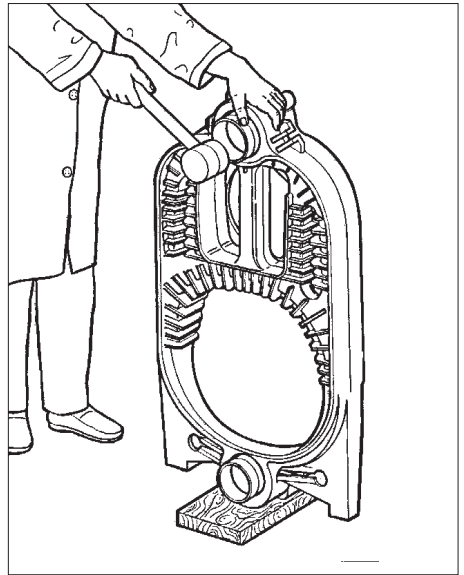

Fig. 8
4.04 (Fig. 8) Mount the link in its housing, tapping lightly with a wooden mallet.